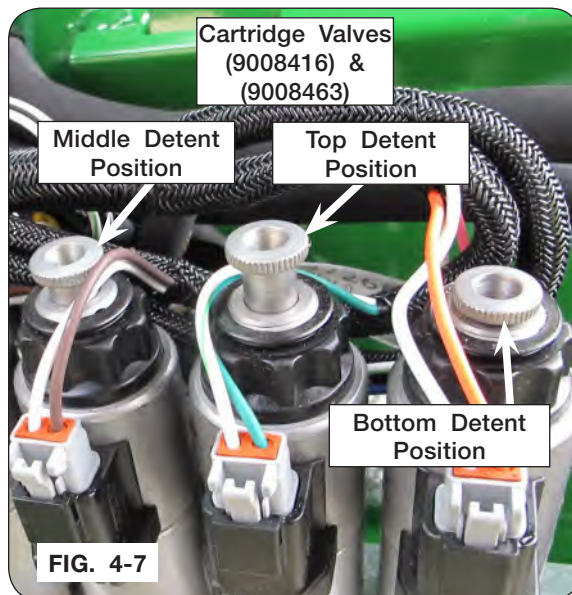

FIG. 4-7
NOTE: Only one cartridge valve (9008416 & 9008463) must be in the top or bottom detent position at a time to function properly. All other valves must be in the middle detent position. (FIG. 4-7 & 4-8)
5. Operate the desired function on valve (9008416 & 9008463) by rotating the manual override knurled knob from the locked neutral position. (FIG. 4-7, 4-8, & 4-10)
8. Return knurled knob to center and lock valve (9008416) & (9008463) in position. (FIG 4-7, 4-8 & 4-10)